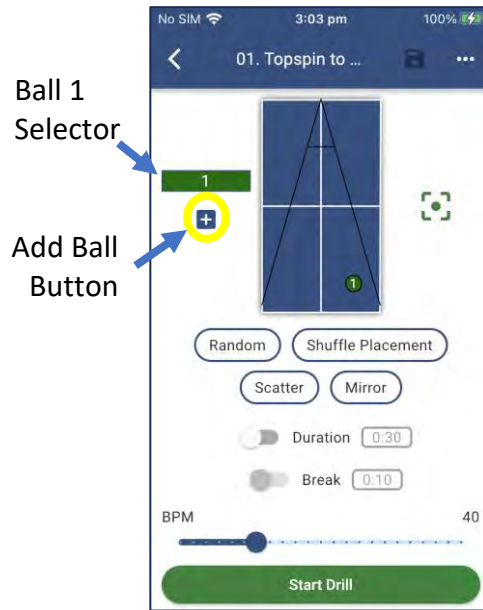
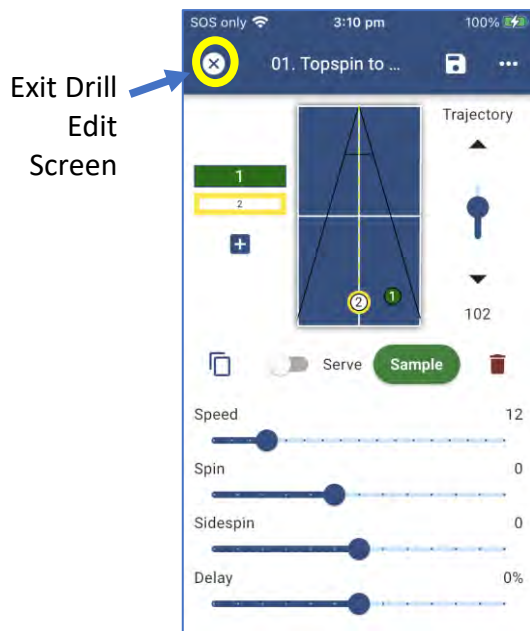

Figure 3-42
Figure 3-43
2. Press the Add Ball button “+” (Figure 3-42) below the Ball 1 Selector, to add an additional ball to this Drill. You will now see two balls in the Drill. (Figure 3-43) and you will be in Drill Edit mode.
4. Press the Exit Drill Editing icon to return to the main Drills screen (Figure 3-43).